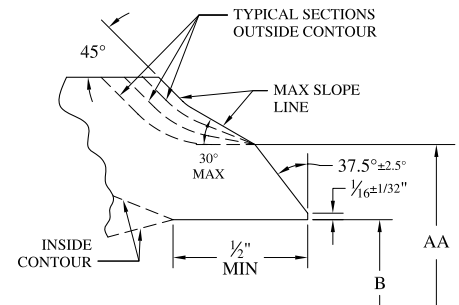
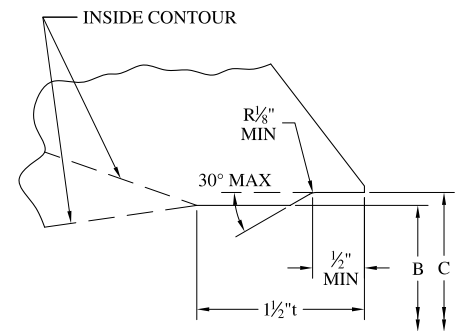

Fig. 1A.- Welding End for No Backing Ring or for Split Backing Ring. Pipe Wall Thickness "t" 7/8" and less.
Fig. 2.- Welding End for Continuous Rectangular Backing Ring (inside contour).*
When the thickness of the welding end of the valve is greater than that of the mating pipe, and when the additional thickness increases the outside diameter, a taper weld having a slope not exceeding 1:3 may be employed or the greater outside diameter may be extended back in a manner within the maximum slope lines indicated in Figs. 1A and 1B. The transition shall be of a shape avoiding sharp reentrant angles and abrupt changes in slope. The profile of the outside contour shall be at the manufacturer's option provided above conditions are met.
For a joint without a continuous backing ring, the inside contour of the valve end shall be bored to a diameter B to a depth of 1/2" min. The inside diameter of a valve end beyond this machined surface may be either larger or smaller than the inside diameter of the pipe. The transition shall be of a shape avoiding sharp re-entrant angles and abrupt changes in slope. See Figs. 1A and 1B. (Transition shape also applies to Figs. 2 and 3).
For a joint with a continuous rectangular backing ring, the contour of the valve end shall be a straight bore of diameter C, 1/2 in. deep. This depth is based on a backing ring 3/4 in. wide; but if a wider ring is used, the depth shall be increased to provide the 1/8 in. minimum end clearance indicated. See Fig. 2.
*See Figs. 1A and 1B for Outside Contours.
BORES: WALWORTH standard practice for Class 150 and 300 cast steel valves is that butt welding ends be machined in accordance with Figs. 1A and 1B, bored to match the inside diameters of Schedule 40 pipe in sizes 12-inch and smaller, and of 0.375 inch Standard Wall Pipe in larger sizes, unless otherwise specified. Orders for all sizes of Class 600 and higher valves must specify the diameter of bore, type of backing ring, etc.